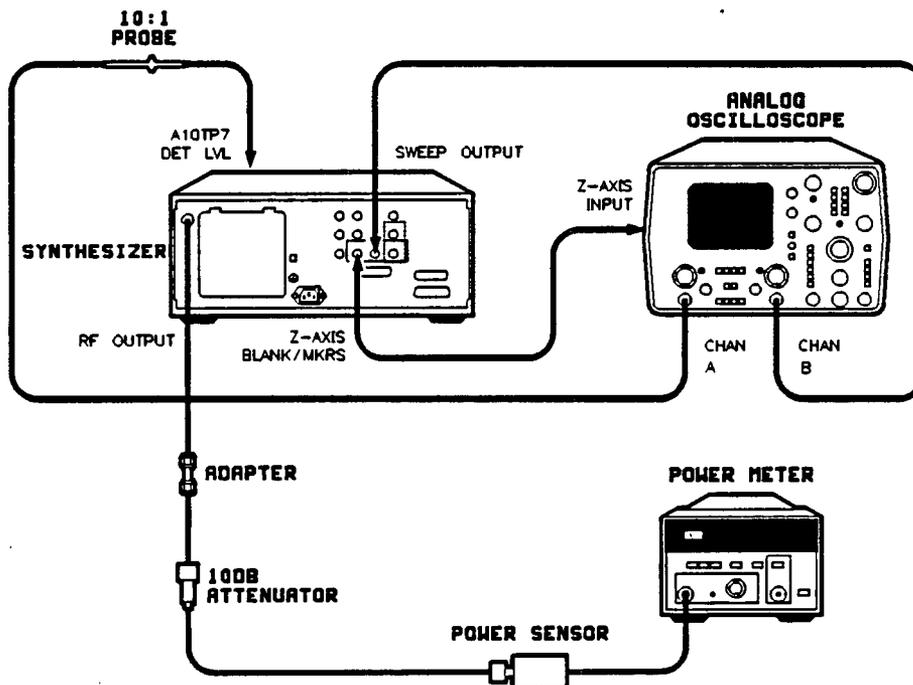

Figure 3-18. Amplifier/Filter Adjustments Setup
1. Connect the equipment as shown in Figure 3-18 using an analog oscilloscope with A versus B sweep capability. Do not connect the power meter yet. Power on all the instruments and let them warm up for at least one hour.